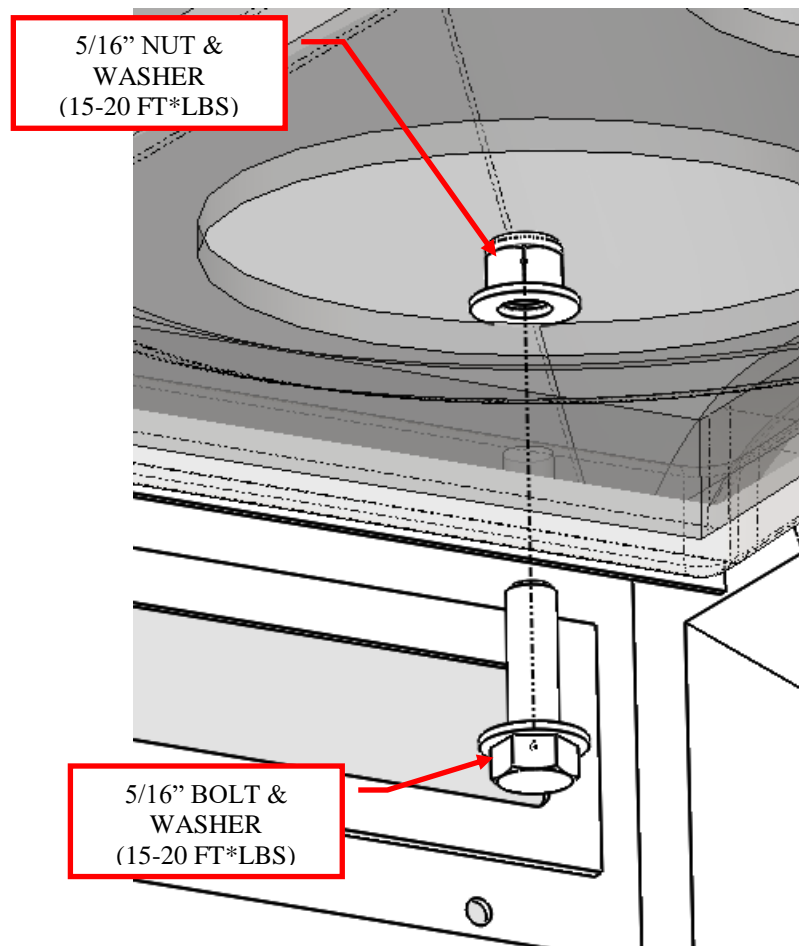

Figure 9: Install the hardware in the top.
9. Bolt the top to the cage using the supplied 5/16" hardware. Make sure and use the nylock nut and washer inside the top and use a bolt and washer outside. Torque to 15 to 20 ft.*lbs. See Figure 9.